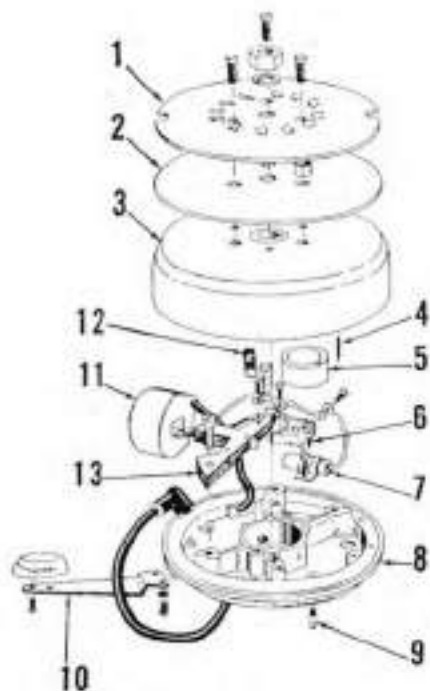

Fig. Mc2 — Exploded view of magneto assembly used on 3.6 horsepower motors.
SPEED CONTROL LINKAGE. The speed control lever (10—Fig. Mc2) moves the magneto armature plate (9) to advance or retard the ignition timing. A synchronizer pin (9) contacts throttle valve lever (14—Fig. Mc1) to control the throttle valve.
angle (A), then tighten nut (N). When adjustment is correct, throttle valve will just begin to open as speed control lever (10—Fig. Mc2) is moved further to the "Fast" position.